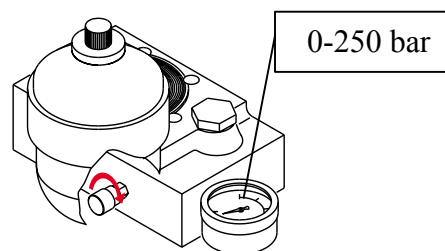

Fig.19
- 8) According to the viscosity of the product regulate the working pressure by rotating the regulator (0-250 bar) so that the pump can reach its own static pressure balance (fig. 19).